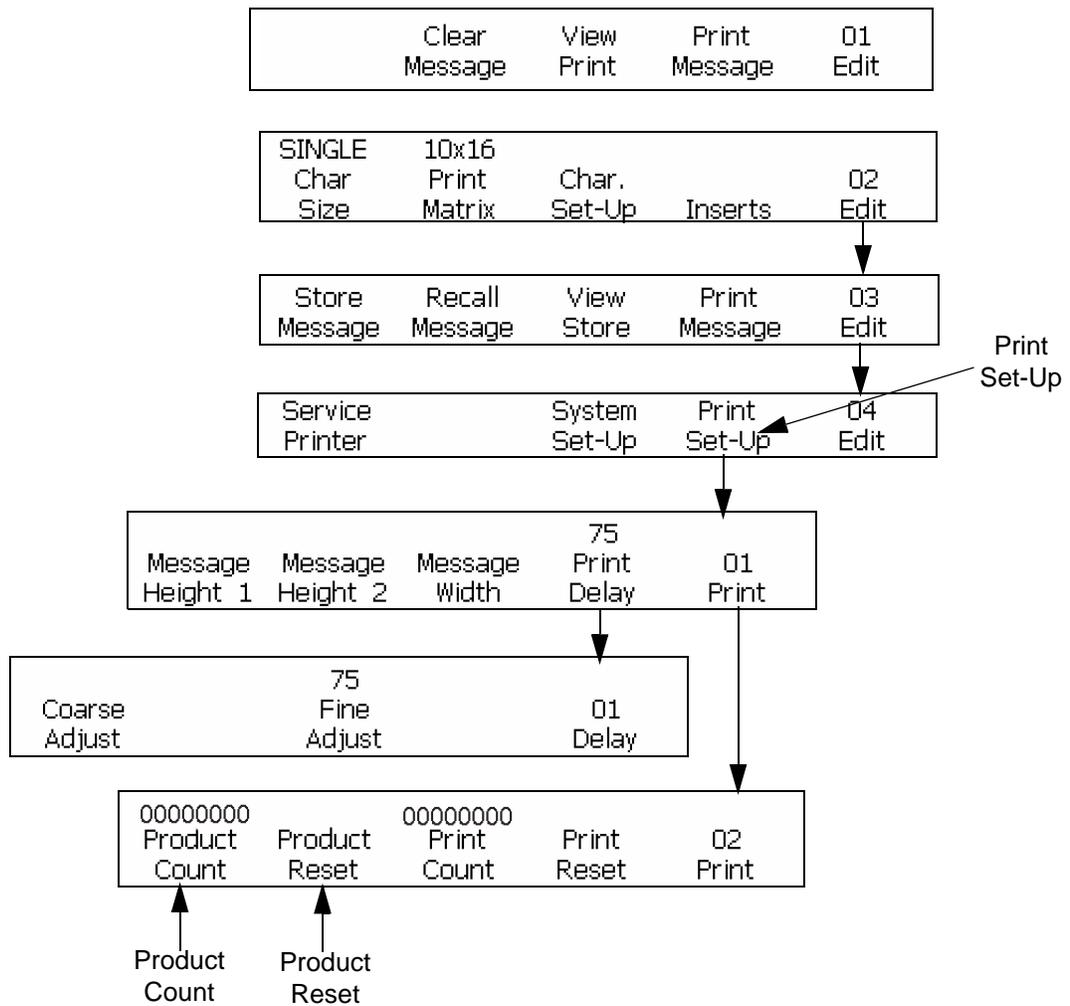

Figure 7-3: Access Frame <02 Print>
- 1 Begin with the frame <02 Print>. Refer to Figure 7-3.
- 1 Begin with the frame <02 Print>. Refer to Figure 7-3 on page 7-5.